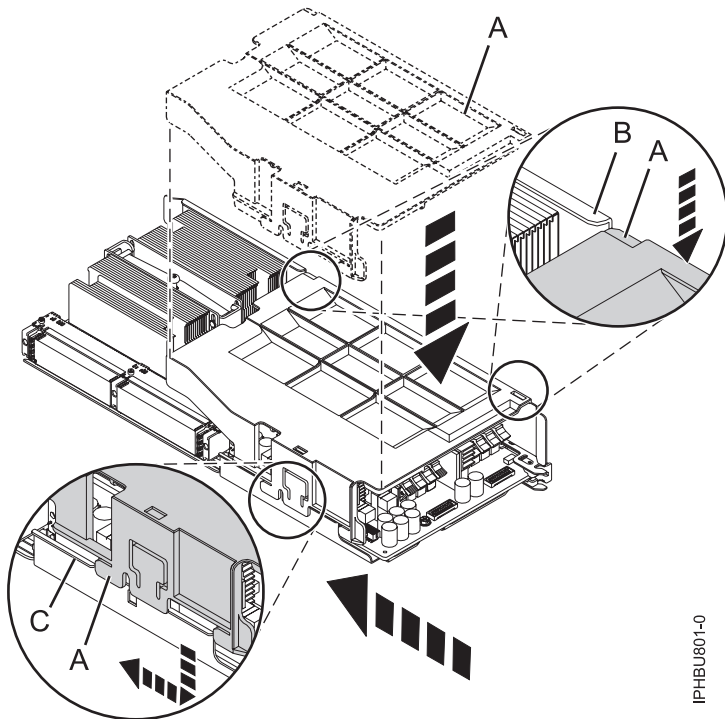

Figure 2. Installing the system processor assembly cover
- If you have the cover shown in Figure 2, install the cover under the flanges on each side of the processor assembly. To install the cover, push the cover (A) down and slide it to the left under the flanges (B) and (C).